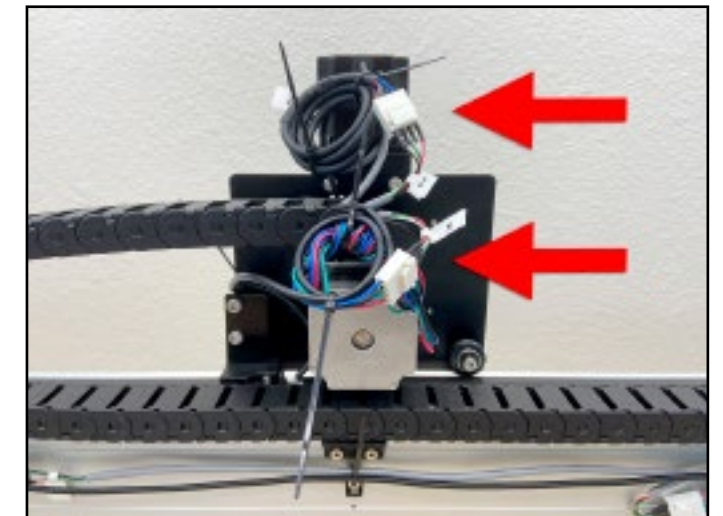

Figure 9-8
1. Neatly bundle the two X-cables together behind the X-motor. See **Figure 9-8**.
3. Neatly bundle the two Z-cables together behind the Z-motor. See **Figure 9-8**.
4. Use two (2) cable ties to secure the Z cables.